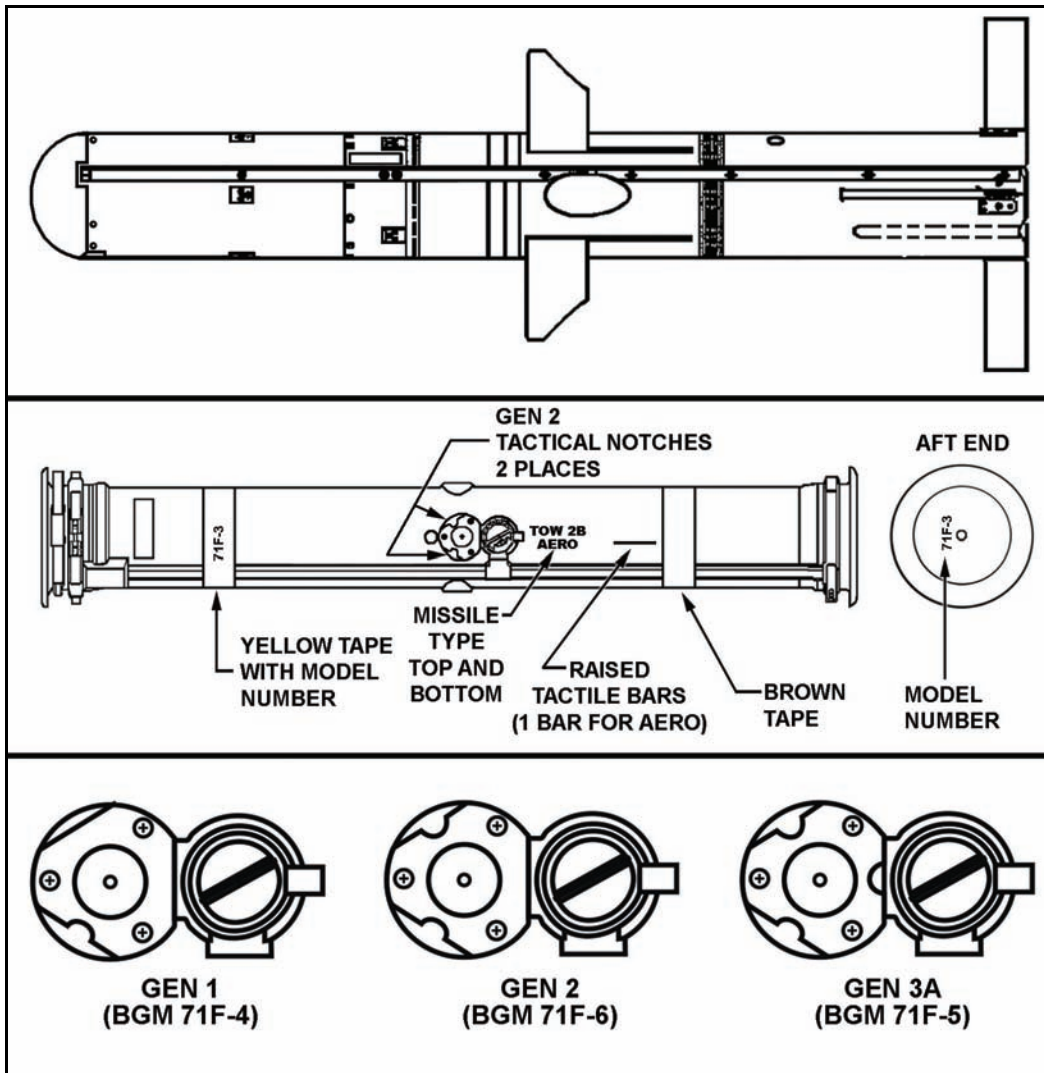

Figure B-9. TOW 2B Aero missile with identification.
- **TOW 2B Aero.** The TOW 2B Aero is an extended range version of the TOW 2B missile with an aerodynamic nose and has an effective range of 4,500 meters (Figure B-9). This longer range (compared to the 3,750 meter range of the previous TOW missiles) allows a TOW crew to fire well beyond the weapons range of its targeted vehicle.
- **TOW 2B Aero With GEN 1, 2, and 3A CAPS.** These versions of TOW 2B Aero have the addition of different generations of CAPS to defeat an enemy target's active protection system, allowing the TOW 2B missile to successfully engage any armored vehicle up to 4,500 meters (Figure B-9).